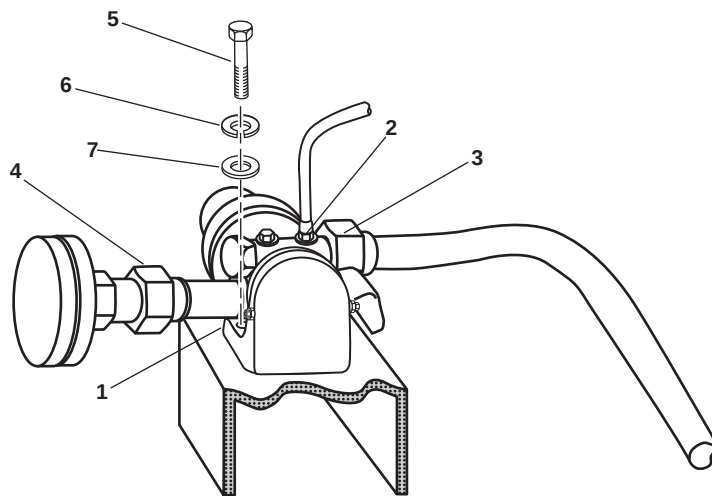

Figure 4. Lube Oil Transfer Pump Removal
12. Place a suitable drain pan under the lube oil transfer pump (figure 4, item 1).
13. Slowly loosen the pressure gauge piping (figure 4, item 2) to relieve pressure from the lube oil transfer pump (figure 4, item 1). Allow any lube oil to drain into the suitable drain pan.
14. After all pressure has been released, completely disconnect the pressure gauge piping (figure 4, item 2) from the lube oil transfer pump (figure 4, item 1).
15. Loosen and disconnect the lube oil piping at the lube oil transfer pump (figure 4, item 1) inlet union (figure 4, item 3) and the outlet union (figure 4, item 4).
16. Remove the two bolts (figure 4, item 5), the two lockwashers (figure 4, item 6), and the two flat washers (figure 4, item 7) securing the lube oil transfer pump (figure 4, item 1) to the foundation. Discard the lockwashers.
17. Remove the lube oil transfer pump (figure 4, item 1) from the foundation.
1. Position the lube oil transfer pump (figure 4, item 1) on the foundation.
2. Install the two bolts (figure 4, item 5), two new lockwashers (figure 4, item 6), and two flat washers (figure 4, item 7) in the lube oil transfer pump (figure 4, item 1). Do not tighten the bolts at this time.
3. Connect and tighten unions (figure 4, item 3 and 4) on the lube oil transfer pump (figure 4, item 1).
4. Tighten the bolts (figure 4, item 5) securing the lube oil transfer pump (figure 4, item 1) to the foundation.
5. Apply antiseizing tape to the pipe threads of the discharge pressure gauge piping. Connect the discharge pressure gauge piping (figure 4, item 2) to lube oil transfer pump (figure 4, item 1) and tighten the piping connection.